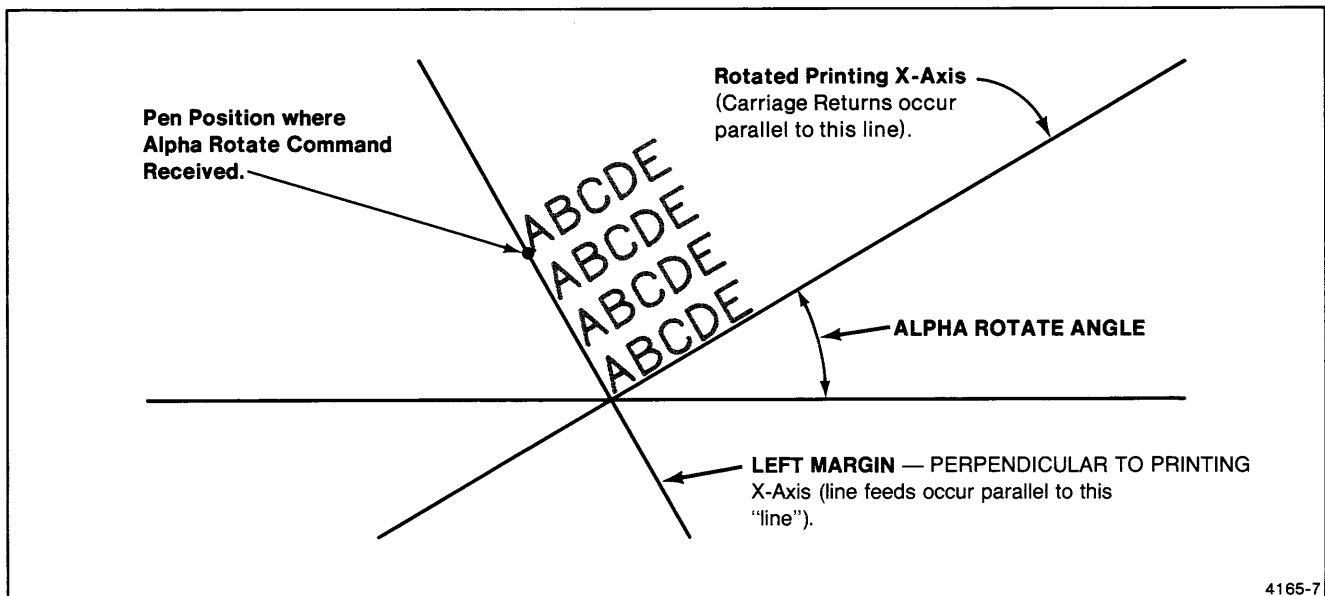

Figure 2-9. Rotated Alphanumeric Characters.
- Enter the following print command three or four times, and observe that a new Carriage Return and Line Feed reference have been established, as shown in Figure 2-9: